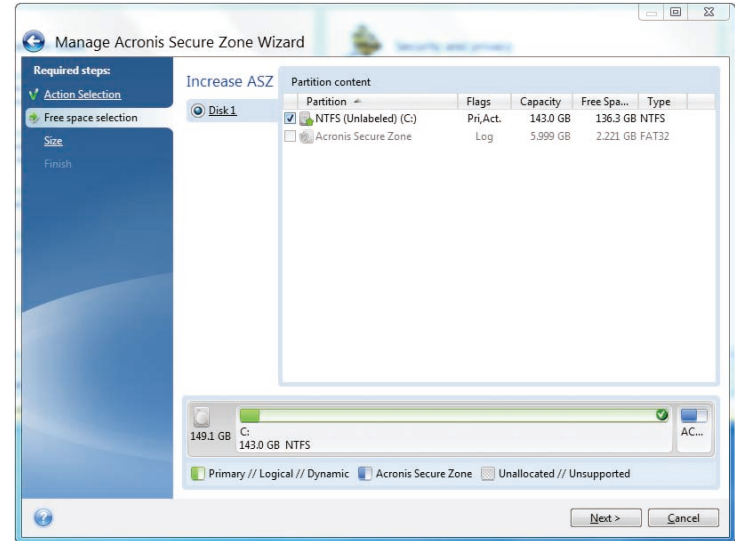

Figure 10. Adjust the Size for Acronis Secure Zone (3)
Step 3. Choose Disk 1: (C:), then you can adjust the size for **Acronis Secure Zone** (Figure 10), then click **Next >** to finish.